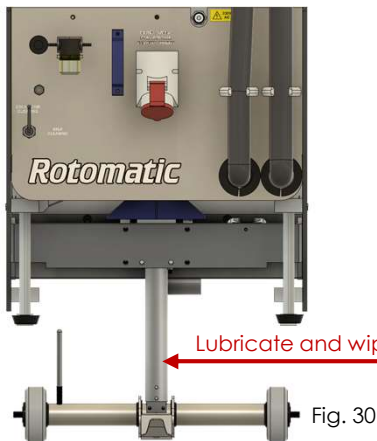

Fig. 30
- Wipe down and lightly lubricate the lifting leg shafts (a light PTFE lubricant such as GT85 is recommended) Fig. 30